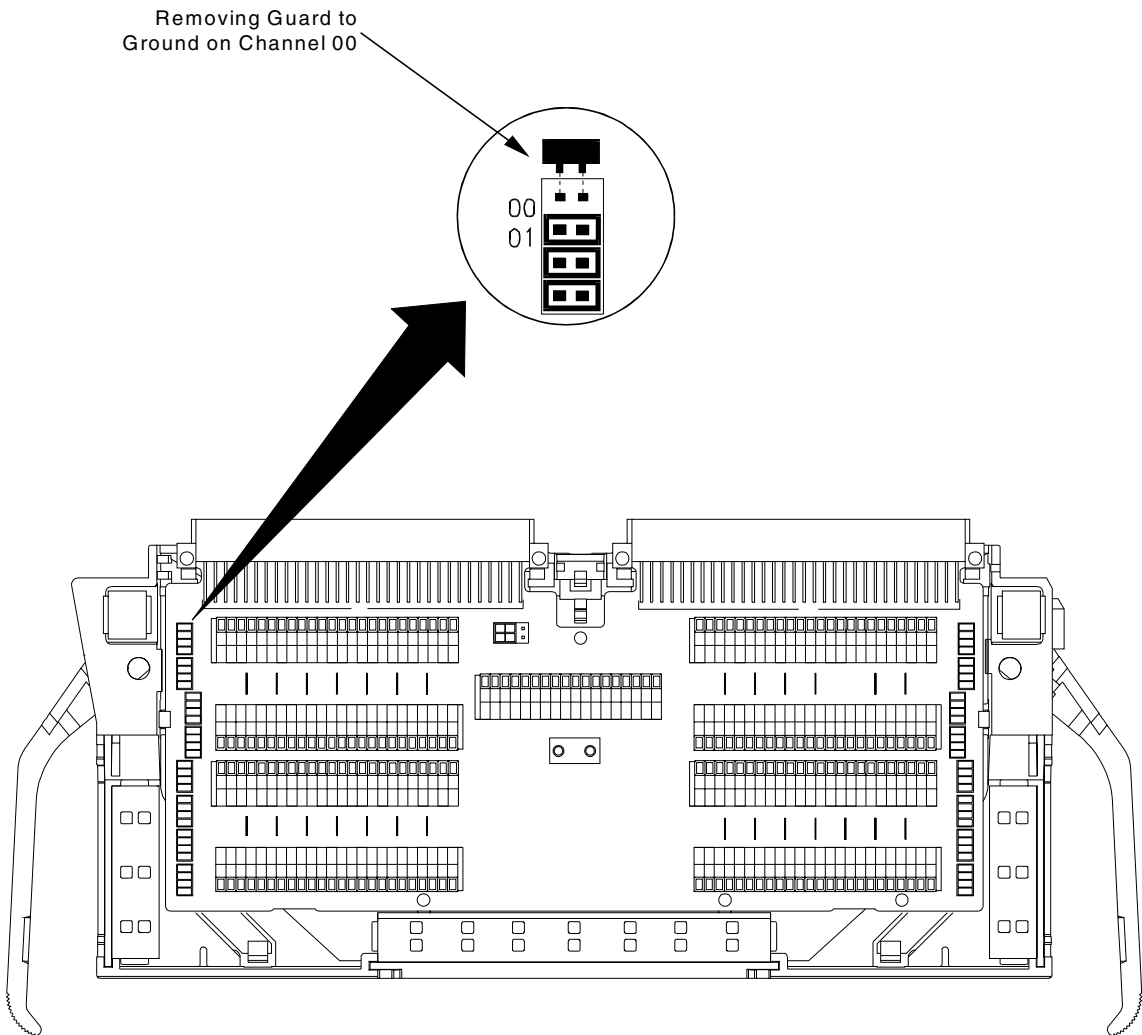

Figure 2-11. Grounding the Guard Terminals
4. The Terminal Module is shipped with the Ground-Guard (GND-GRD) shorting jumper installed for each channel. These may be left installed or removed (see Figure 2-11 to remove the jumper), dependent on the following conditions: